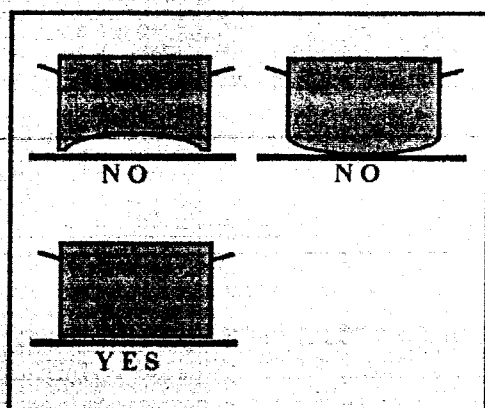

Fig.1
- Pans should be of a good quality and flat on the bottom to insure complete contact with the heating area (Fig.1). To guarantee this, it is recommended that new pans be used. Stainless steel and cast iron pans work best. Aluminum pans are not recommended on HIGH temperature.